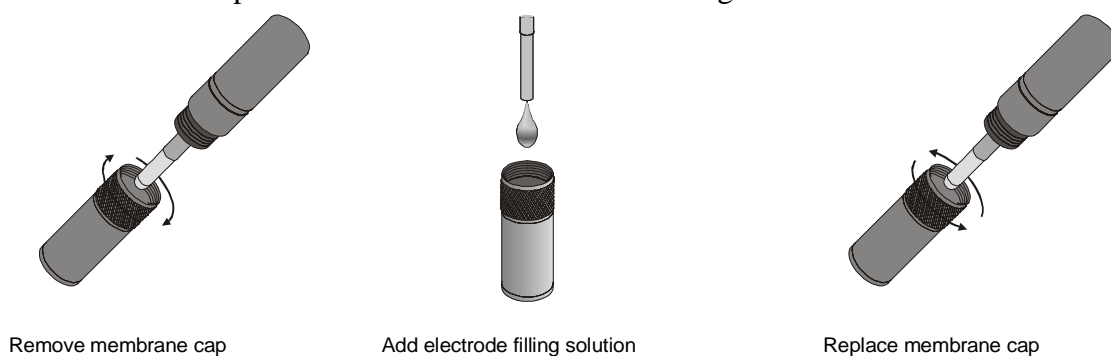

Figure 1
1. Prepare the Dissolved Oxygen Probe for use (see Figure 1).